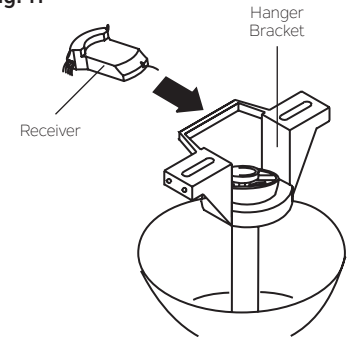

Fig. 12
**Step 3.** Insert the receiver into the ceiling mounting bracket with the flat side of the receiver facing the ceiling. (Fig. 12) For best performance, make sure the Black Antenna, on the end of the receiver, remains extended and not tangled with any of the electrical wires.